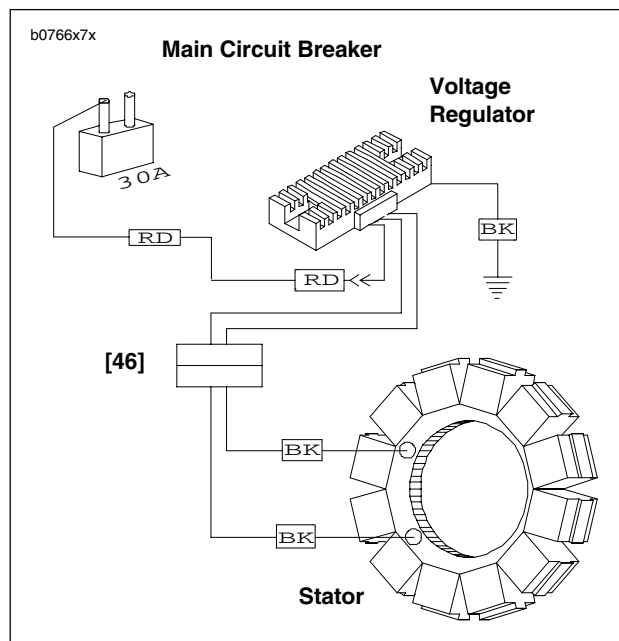

Figure 7-26. Voltage Regulator Connector [46]
3. See Figure 7-26. Locate voltage regulator connector [46] near the oil pump. Disconnect from alternator stator wiring. Cut cable straps if necessary.